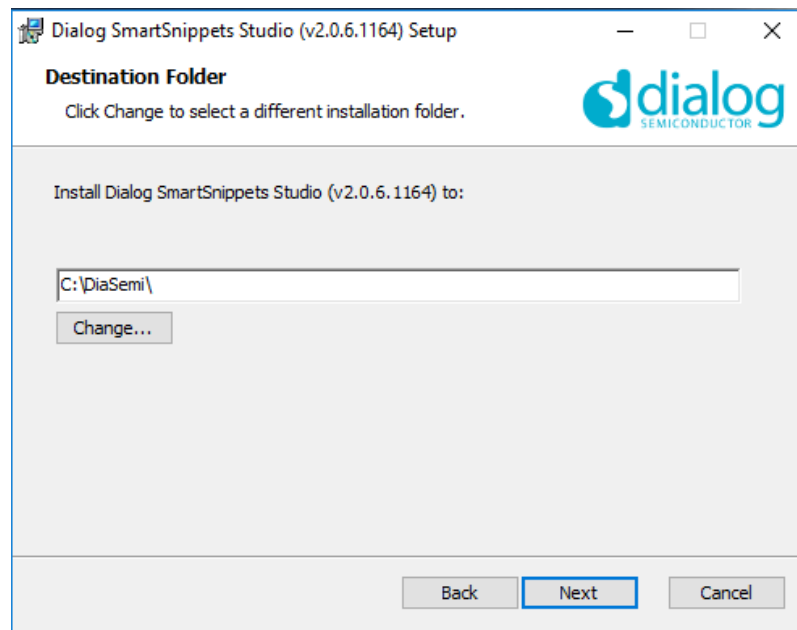

Figure 3: Select SmartSnippets™ Studio Installation Directory
4. Select the destination folder (Figure 3) for the SmartSnippets™ Studio and click "Next". The default installation location C:\DiaSemi is recommended.